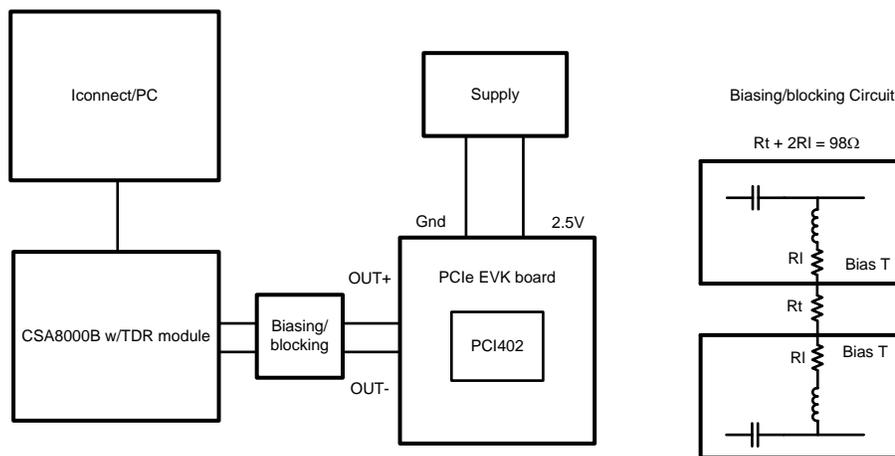

Figure 6. Input and Output Return Loss Setup
- (1) Typical values represent most likely parametric norms at V_{DD} = 2.5V, T_A = 25°C., and at the Recommended Operation Conditions at the time of product characterization and are not ensured.
- (2) The Electrical Characteristics tables list ensured specifications under the listed Recommended Operating Conditions except as otherwise modified or specified by the Electrical Characteristics Conditions and/or Notes. Typical specifications are estimations only and are not ensured.
- (3) Measured with DEM Select pins configured for 1000mV VOD, see De-emphasis table.
- (4) Input edge rate for LVC MOS/FLOAT inputs must be 50ns minimum from 10-90%.
- (5) Input Return Loss also uses the setup shown in Figure 6. The blocking / biasing circuit is replaced with a simple AC coupling capacitor for each input to emulate a typical PCIe application.
- (6) Measured at package pins of receiver. Less than 40mV is IDLE, greater than 175mV is ACTIVE. SD_TH pin connected with resistor to GND overrides this default setting.
| $RL_{TX-DIFF}$ | Differential Output Return Loss | 0.05- 1.25 Ghz, See Figure 6 | | -23 | | dB |
| | | 1.25- 2.5 Ghz, See Figure 6 | | -20 | | dB |
| RL_{TX-CM} | Common Mode Return Loss | 0.05- 2.5 Ghz, See Figure 6 | | -11 | | dB |